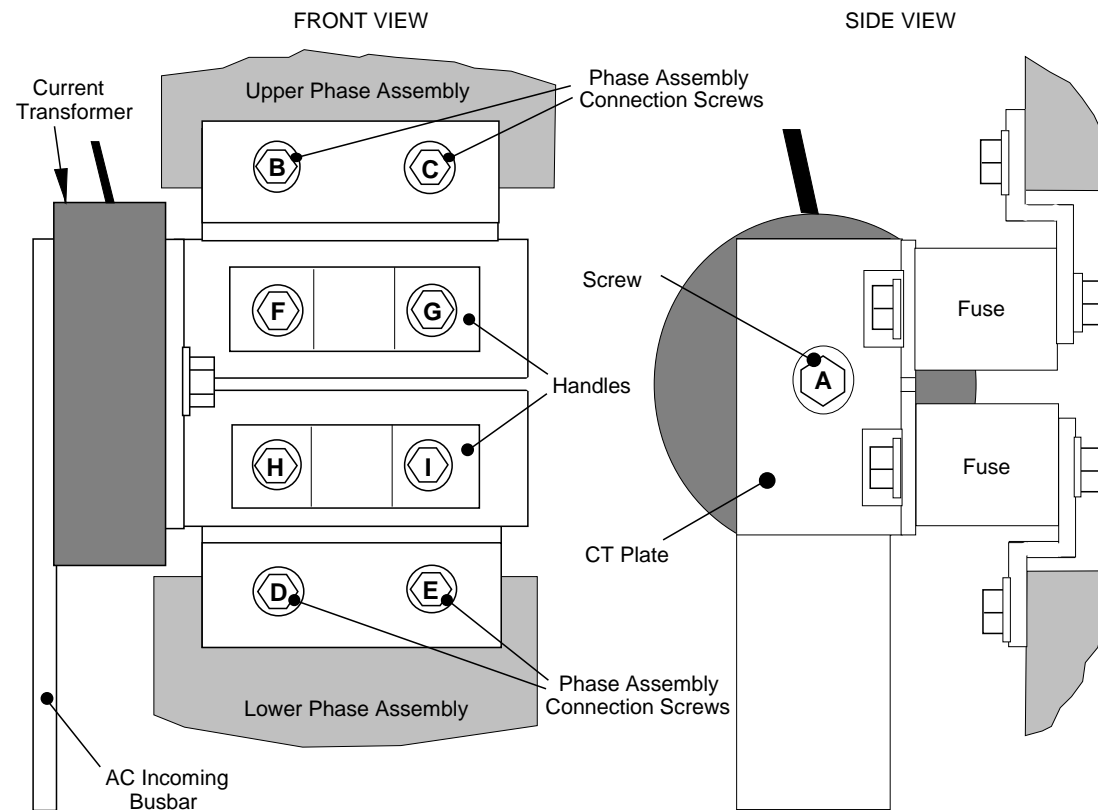
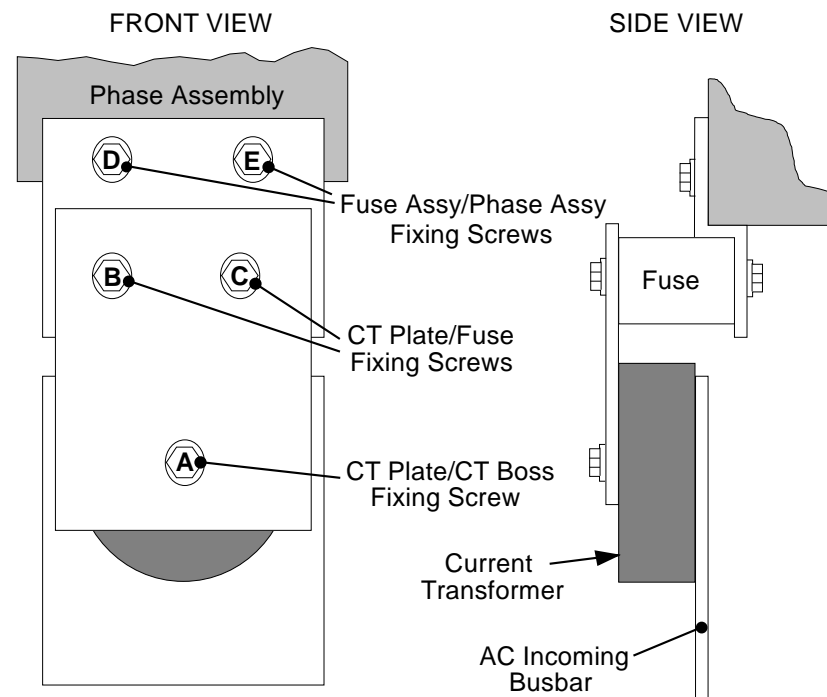

Figure 8-1 590+ (Frame 7) Fuse Replacement Diagram
Figure 8-2 591+ Fuse Replacement Diagram
1. Referring to Figure 8-1 (590+) or Figure 8-2 (591+), remove the M12 screw (A). Undo the four screws (B, C, D, E) which allows the CT plate and fuse assembly to be removed.